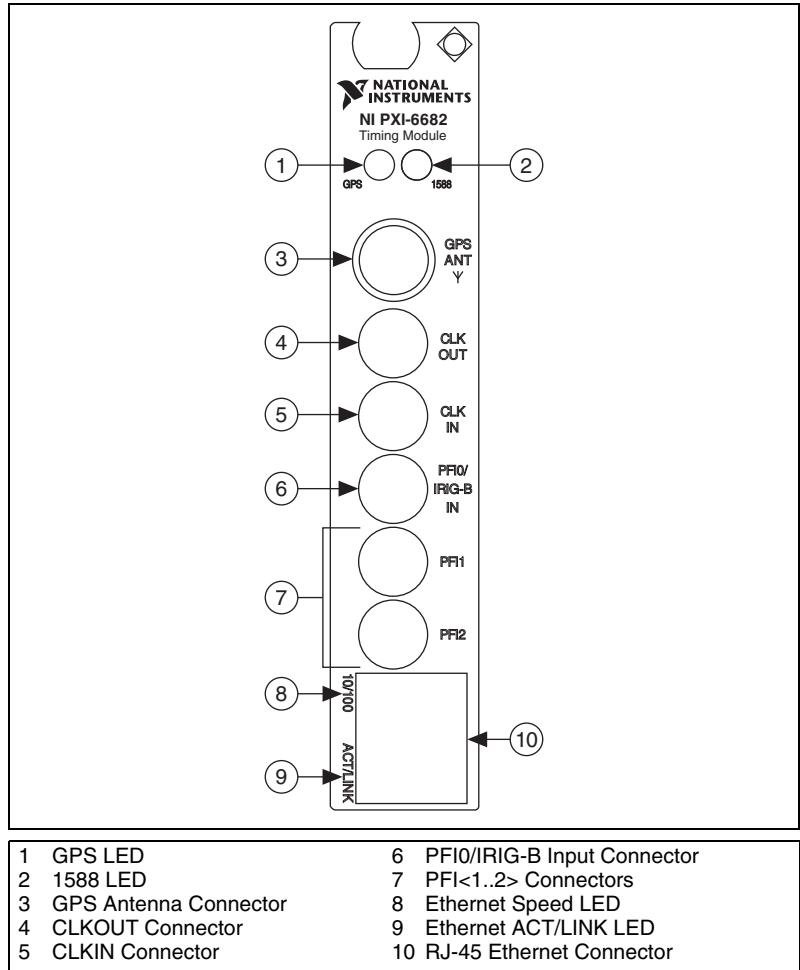

Figure 3-3. NI PXI-6682 Front Panel
Figure 3-3 shows the connectors and LEDs on the front panel of the NI PXI-6682 Series.
Note The NI PXI-6682H does not have the CLKIN connector, shown as item 5 in Figure 3-3.
The GPS LED indicates the status of the GPS hardware. Refer to Figure 3-3 for the GPS LED location.
The 1588 LED indicates the status of the IEEE 1588 synchronization protocol. Refer to Figure 3-3 for the 1588 LED location.
The Speed LED indicates the NI PXI-6682 Series Ethernet link speed. Refer to Figure 3-3 for the Speed LED location.
The ACT/LINK LED indicates the NI PXI-6682 Series Ethernet link condition. Refer to Figure 3-3 for the ACT/LINK LED location.
This section describes the connectors on the front panel of the NI PXI-6682 Series. Refer to Figure 3-3 for the location of the connectors.